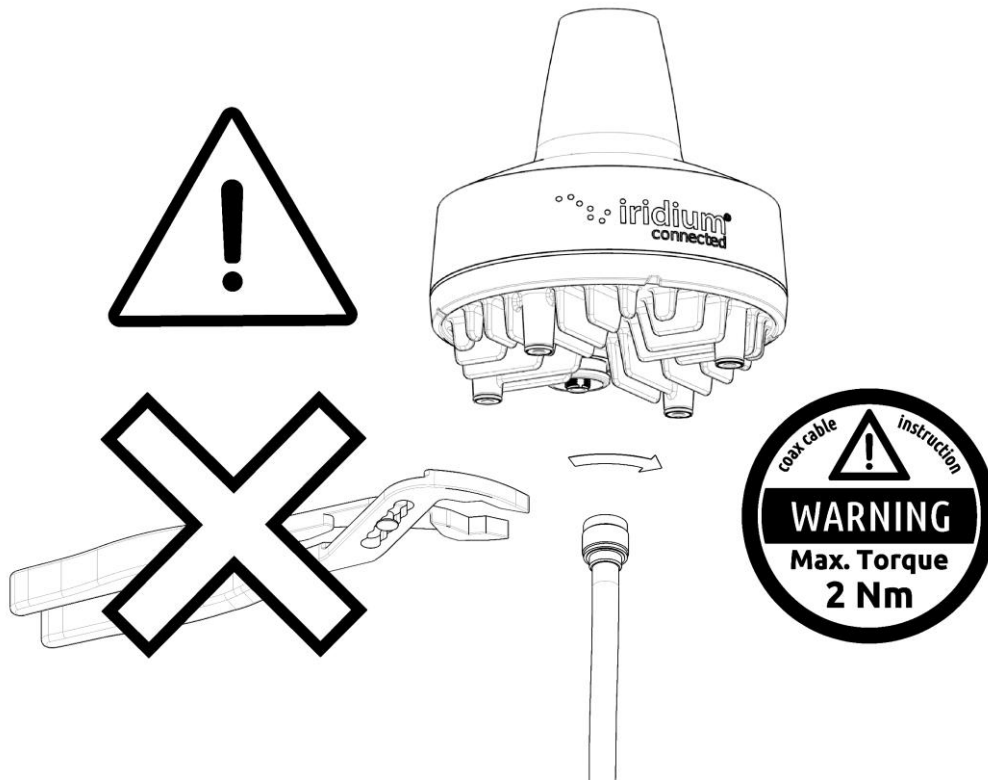

Figure 11: Connecting coaxial cable N-connector to the LT-4230 Antenna Unit
**IMPORTANT:** Maximum allowed torque is 2 Nm when connecting the coaxial cable N-connector (male) to the N-connector (female) of the LT-4230 Antenna Unit. No tooling must be used for fastening the coaxial cable thread nut as illustrated in Figure 11 above.